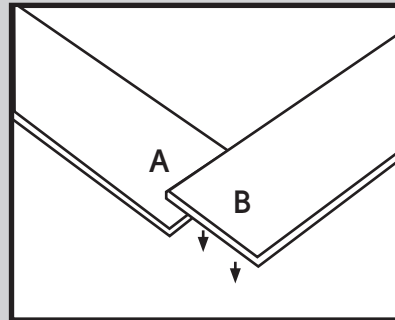

Fig 4a.
4. Take one "A" plank and one "B" plank and place as shown below. Angle the B plank at 45° and slide the joint together and lay flat (Figs 4a & 4b.).